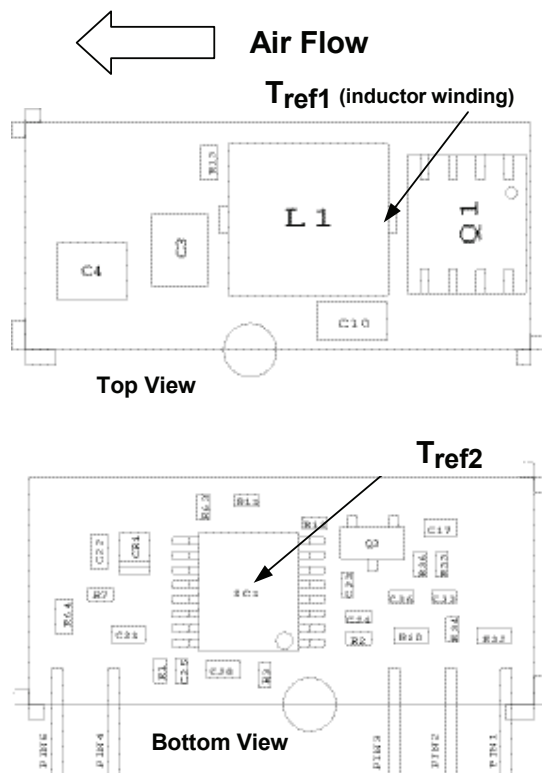
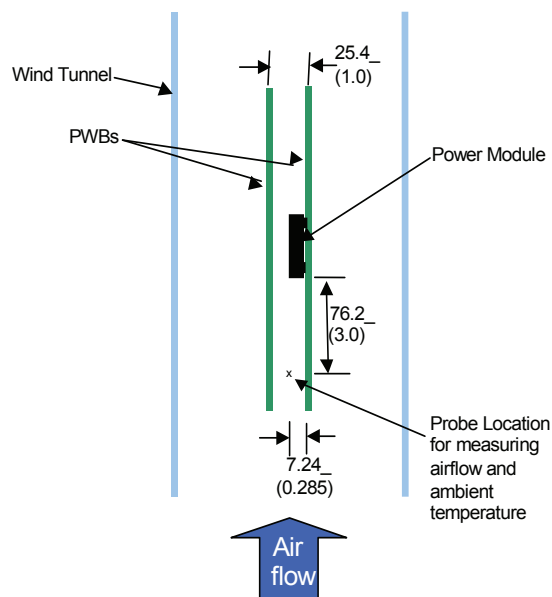

Figure 32. T_{ref} Temperature measurement location.
Figure 33. Thermal Test Set-up.
To provide over temperature protection in a fault condition, the unit relies upon the thermal protection feature of the controller IC. The unit will shutdown if the thermal reference point T_{ref2} , (see Figure 33) exceeds 140°C (typical), but the thermal shutdown is not intended as a guarantee that the unit will survive temperatures beyond its rating. The module will automatically restarts after it cools down.
Considerations include ambient temperature, airflow, module power dissipation, and the need for increased reliability. A reduction in the operating temperature of the module will result in an increase in reliability. The thermal data presented here is based on physical measurements taken in a wind tunnel. The test set-up is shown in Figure 33. Note that the airflow is parallel to the long axis of the module as shown in Figure 32. The derating data applies to airflow in either direction of the module's long axis.
The thermal reference point, $T_{ref\ 1}$ used in the specifications of thermal derating curves is shown in Figure 32. For reliable operation this temperature should not exceed 125°C.